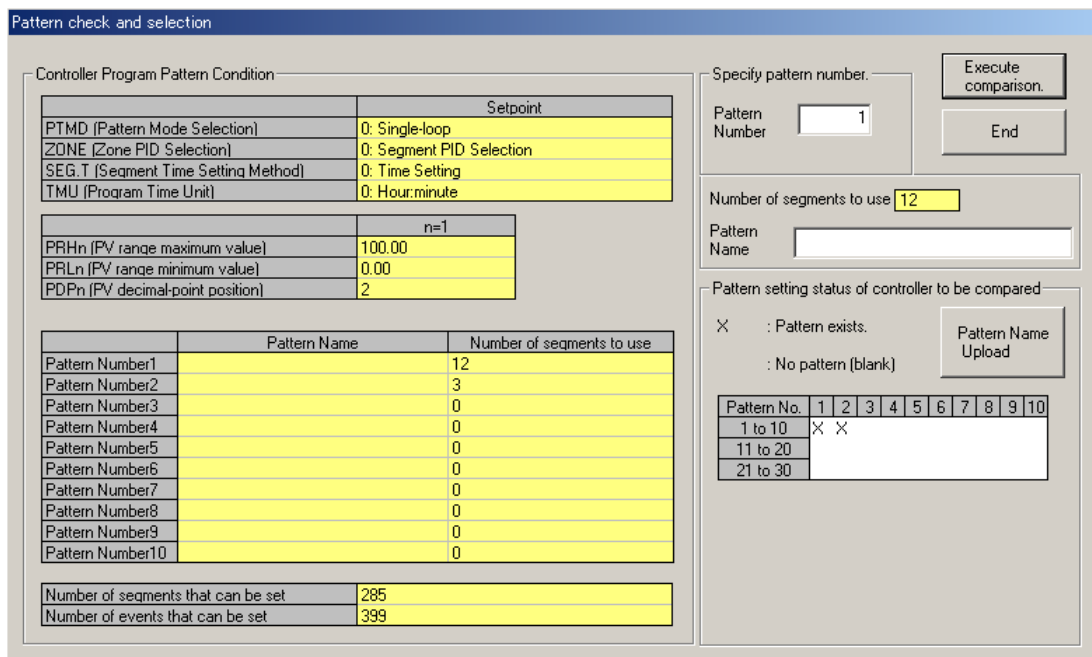

Figure 12.3.2 Pattern Check and Selection Dialog Box (Compare)
- (2) Click **Front communication**.
- (3) From the **Serial Port** list, select the communication port of the personal computer (COM1 to COM16).
- (4) Connect the controller to the personal computer, and then click **OK**.
- (5) When communication is established, the Pattern Check and Selection dialog box (Figure 12.3.2) appears, showing the program pattern setting status of the controller.
- (6) Connect the controller to the personal computer, and then click **OK**.
- (7) When communication is established, the Pattern Check and Selection dialog box (Figure 12.3.2) appears, showing the program pattern setting status of the controller.
- (8) Enter the pattern number in the **Pattern Number** text box and click **Execute comparison**.
- (9) When the program pattern data match, a message appears saying “No non-matching parameter detected.”
- (2) Click **Terminal communication**.
- (3) Click **Ethernet communication**.
- (4) Set the target controller's IP address and RS485 communication address in the **IP Address** text box.
- (5) Set the target controller's port number in the **Port No.** text box. The port number can be set in decimal or hexadecimal.